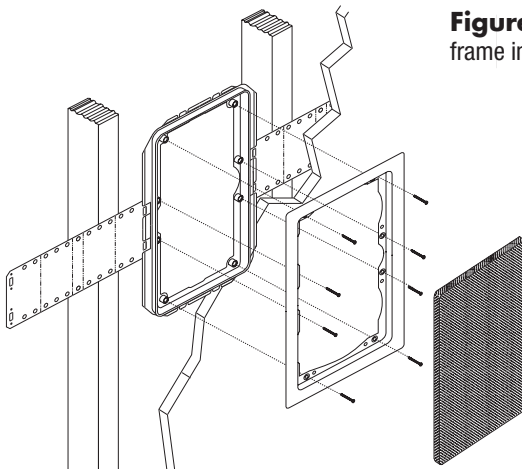

Figure 14. Installing the frame into a mounting bracket.
5. *If the coat hanger moves freely in a complete circle, hold the supplied template up to the wall or ceiling and level it in the horizontal or vertical position. Use a pencil to outline the cutout on the surface and then drill the four corner holes with a 1/4-inch bit (see **Figure 14** on page 17).*
3. *Attach each frame to its bracket using the supplied screws, as shown in **Figure 14**. The screws should pull the frame and bracket together (sandwiching the drywall) so that the frame is absolutely flush with the wall surface. There should be no gaps between the wall and the frame.*